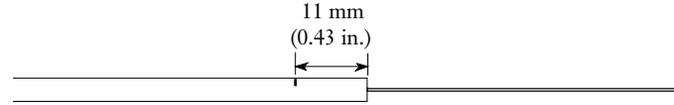

Figure 5-21
- 5.5-5 Measure and mark 11 mm (0.43 in) from the end of the outer jacket (Figure 5-21).